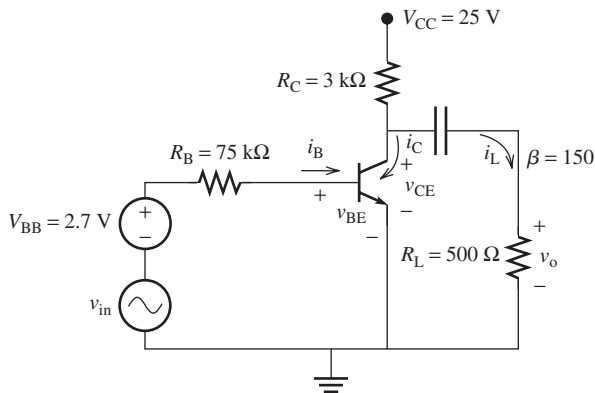

FIGURE P8.48 Circuit of Problem 8.48.
- 8.48** (H)* Find A_v , A_i , R_i , and R_o for the circuit shown in Figure P8.48.